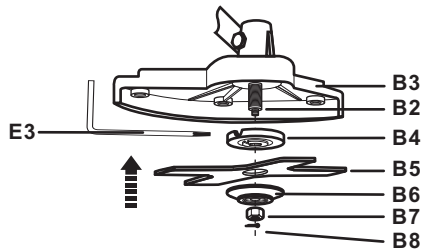

Fig. 7
6. Secure the blade (B5) with the safety nut (B7) removed earlier and insert the pin (B8) (See Fig. 7)